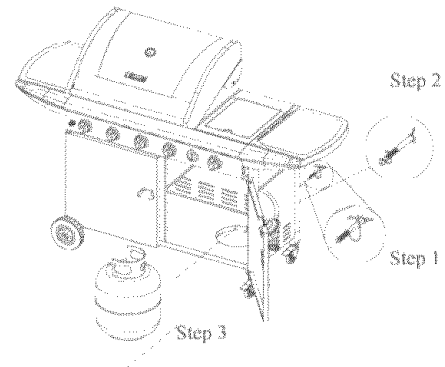

Figure 19
1. From Rear of the cart, place foot ring of 20 lb tank into the hole in bottom shelf. Make sure the tank valve is in OFF position. (Fig. 19)